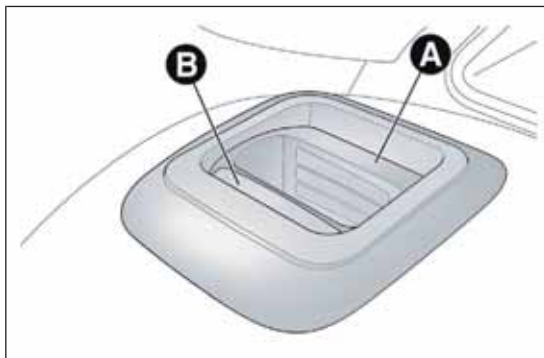

fig. 91
**IMPORTANT** The backrest is correctly secured when the red band B fig. 91 on backrest folding handle A disappears. This red band indicates that the backrest is not secured.
**Make sure that the backrest is correctly secured on both sides (red bands B fig. 91 not visible) to prevent it from moving forward in the event of sharp braking, causing injuries to occupants.**